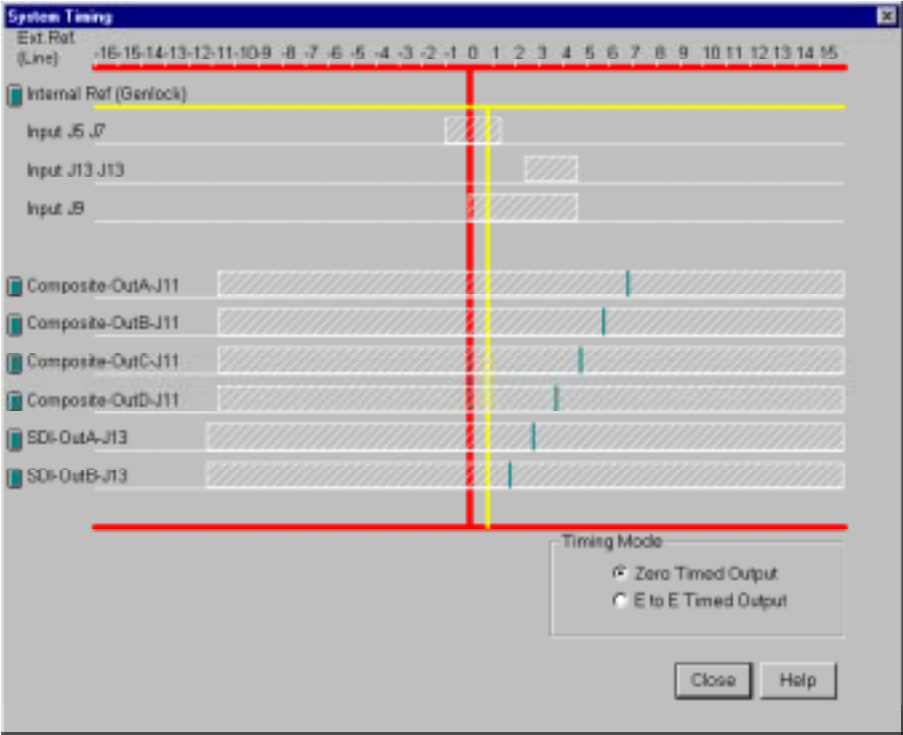

Figure 7. System Timing dialog box, zero-timed
1. Choose **Options | System Timing** or click the **System Timing** button on the toolbar. The System Timing dialog box appears (see Figure 7 which shows an example of how the dialog box looks when the outputs are zero-timed by default).